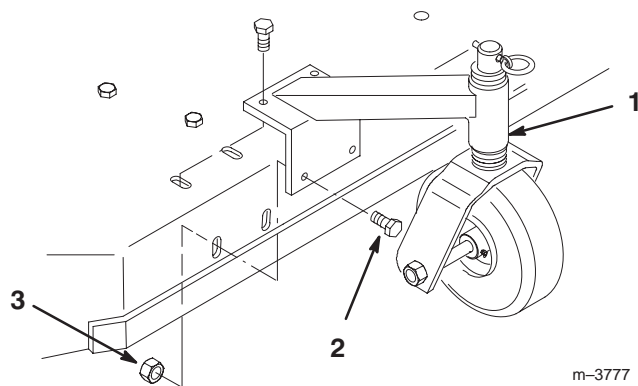

Figure 1
1. Align castors with holes on top and front of mower and insert (8) 3/8–16 x 3/4" (19 mm) bolts through mower. Secure with (8) 3/8–16 flange nuts below mower (Fig. 1).